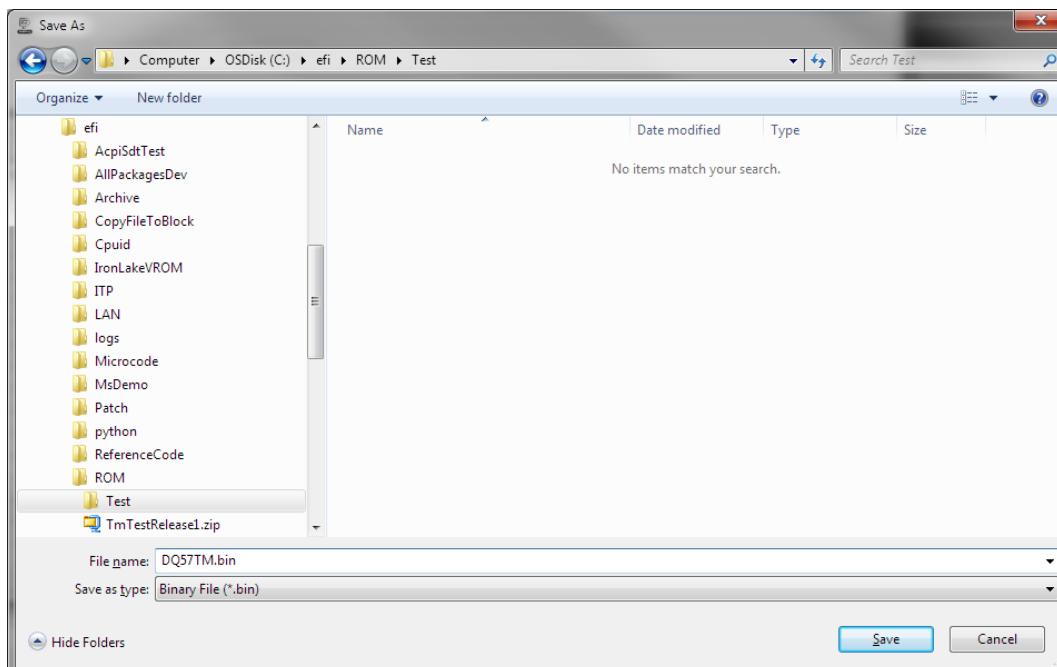

Figure 3-12. Browse to a destination directory and filename, to which to save the new BIOS image.
9. Enter a destination directory and filename into which to save the file on the hard drive (see Figure 3-12). In this guide, the example destination directory is c:/temp.